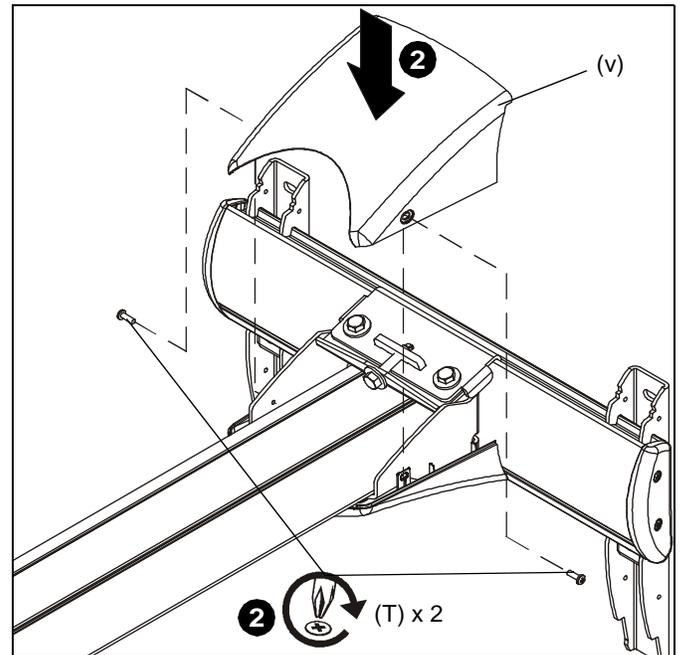

Figure 15
2. Lower the upper cover (V) onto the wall mount and fasten through upper cover (V), lower cover (W) and into wall mount with two 8-32 x 1/2" Phillips pan head screws (T). (See Figure 15)
3. Install one 5/16-18 x 1/4" set screw (Q) or one 5/16-18 x 1/4" security set screw (R) through hole in WMA2S mounting plate and column. (See Figure 15)